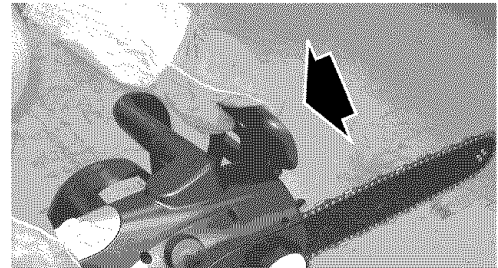

Fig. 4
2. **Be certain the Chain Brake® is disengaged** before starting unit (Fig. 4). Disengage it by pulling backward toward the motor.